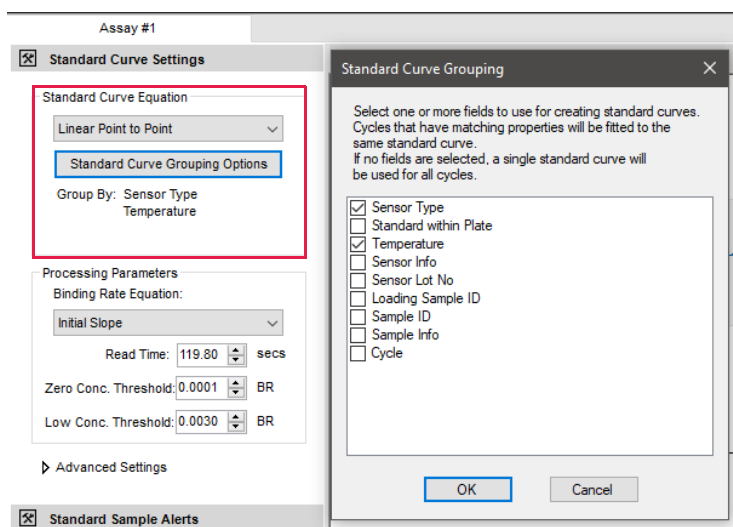

Figure 10-19: Selecting a Standard Curve Equation
1. Select an equation in the Standard Curve Equation box (Figure 10-19).